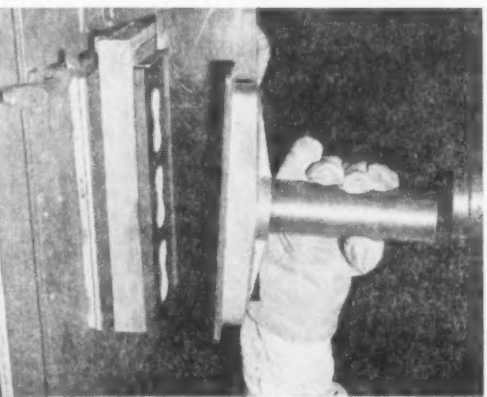

Fig. 2 . . . Removing cartridge after the test briquette has been blown.
6. Apply air pressure at 30 psi for 2 seconds and remove cartridge as shown in Fig. 2. *Note: Positioning and blowing of the specimens should be accomplished in as short an interval as possible to prevent an excessive temperature drop in the pattern.*